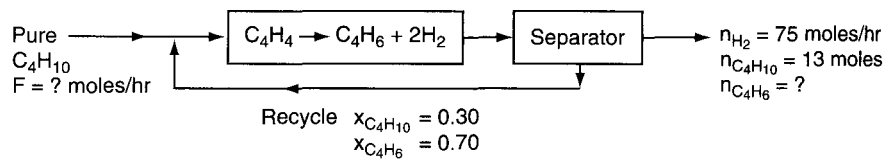

Figure SAT12.3P1
7. A catalytic dehydrogenation process shown in Figure SAT12.3P1, produces 1, 3 butadiene (C_4H_6) from pure normal butane (C_4H_{10}). The product stream contains 75 mol/hr of H_2 and 13 mol/hr of C_4H_{10} as well as C_4H_6 . The recycle stream is 30% (mol) C_4H_{10} and 70% (mol) C_4H_6 , and the flow is 24 mol/hr.